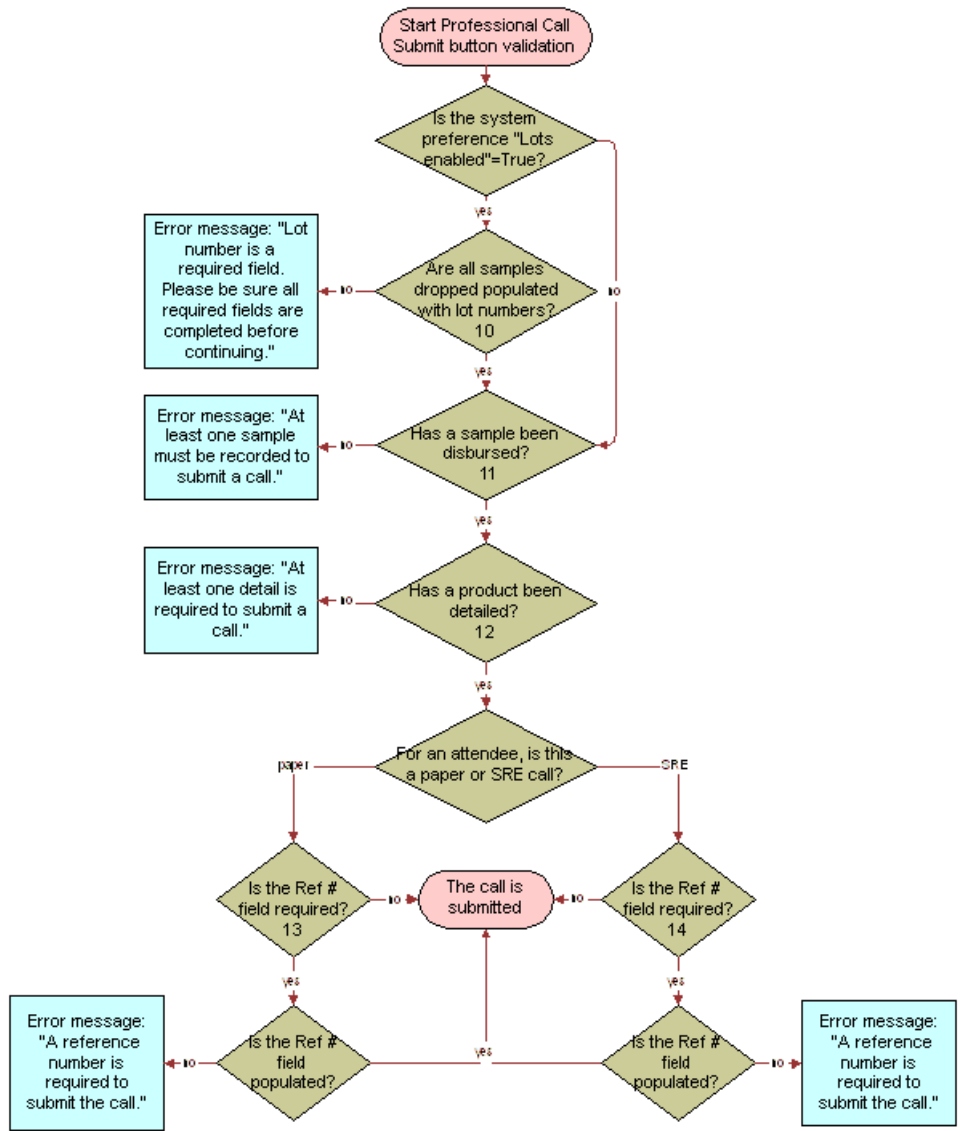

Figure 2. Default Validation Logic Flowchart for Professional Call Submit Button
- Professional Call Submit button, Figure 2 on page 79